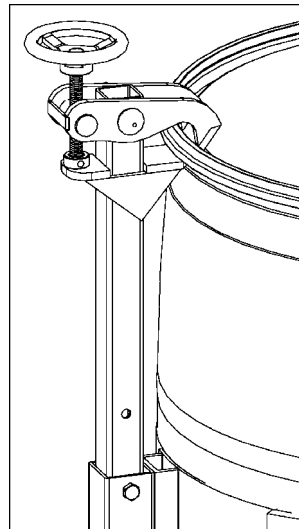
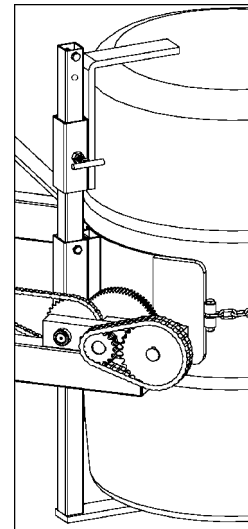

Figure 2.1
Figure 2.2
- A 55-gallon plastic drum can be handled with either the Adjustable HDPS Bracket (Part # 1465M-P) or the Top Rim Clamp (Part # 3540M-P). Use the Top Rim Clamp with a plastic drum that has a suitable top rim (see figure 2.1). Use the Adjustable Bracket for a drum with or without a top rim (see figure 2.2).